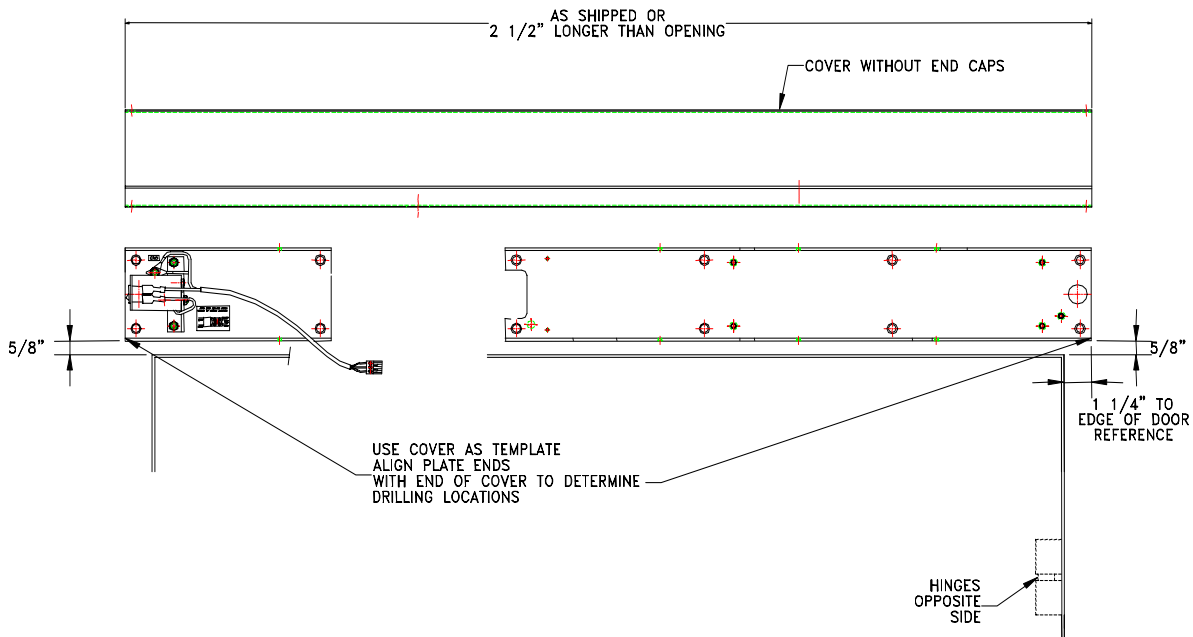

FIGURE 12: CENTERING OPERATOR OVER OPENING
2. Center operator over opening (Figure 12)